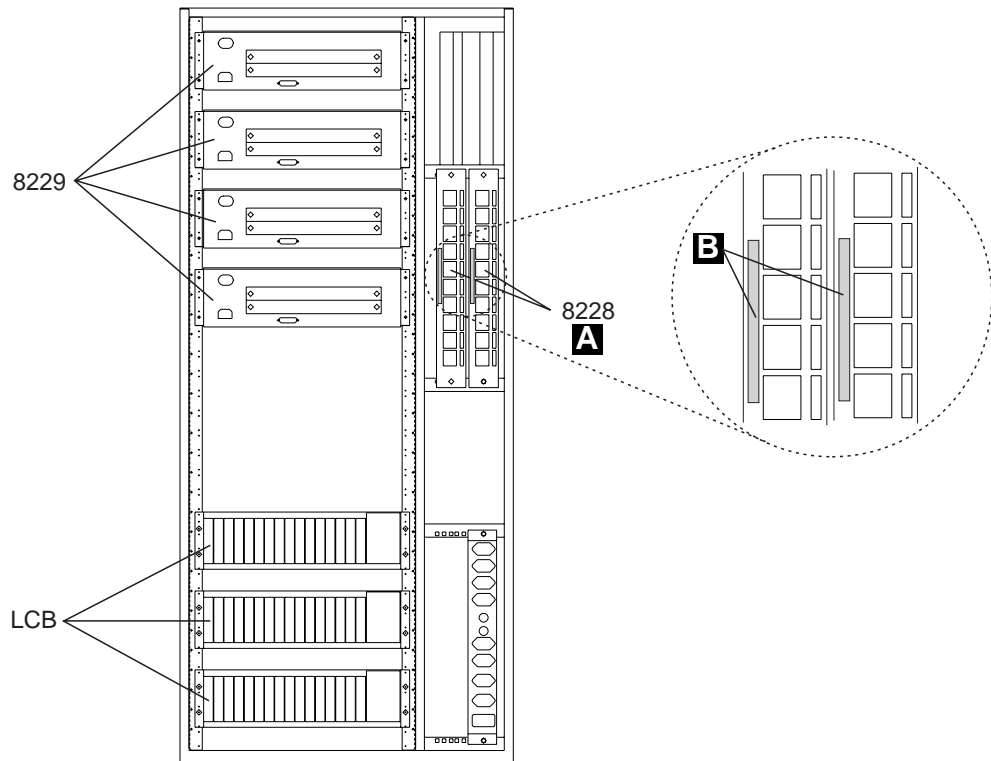

Figure 2-22. Installing Four Ethernet Bridge in the Controller Expansion-B (Rear View)
- h. \_\_\_\_ Refer to Figure 2-22, in this example two 8228s and four Ethernet bridges are installed (maximum configuration). Install vertically a 8228 **A** on the rear side of the controller expansion-B using two screws (PN 1621232) and two captive nuts (PN 58G5766). Using label **B** (PN 782964), identify the 8228s as Ethernet Bridge Access Unit-A and Ethernet Bridge Access Unit-B.